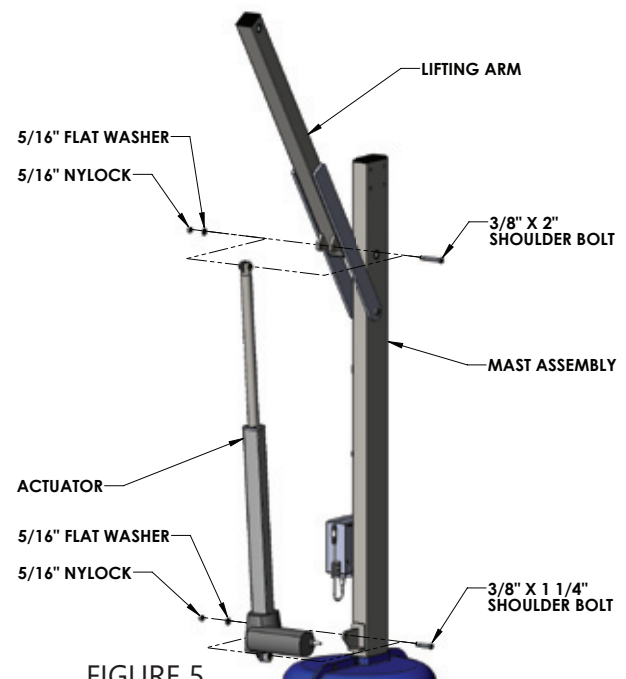

FIGURE 5
4. After the lifting arm is secured to the mast, attach the actuator to the mast and the lifting arm with the 3/8 inch shoulder bolts and 5/16 inch nylocks and flat washers as shown in FIGURE 5. Make sure the actuator head faces the opposite direction of the control box. If rotated the other way, the actuator head might hit the mast.